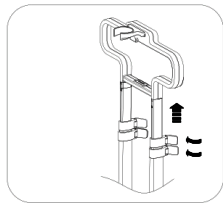

Fig. 5
- Open the telescopic buckle, pull the Aluminum pole. Fig .5.